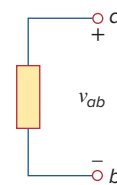

Figure 1.6
Figure 1.6 shows the voltage across an element (represented by a rectangular block) connected to points a and b . The plus (+) and minus (–) signs are used to define reference direction or voltage polarity. The v_{ab} can be interpreted in two ways: (1) Point a is at a potential of v_{ab} volts higher than point b , or (2) the potential at point a with respect to point b is v_{ab} . It follows logically that in general